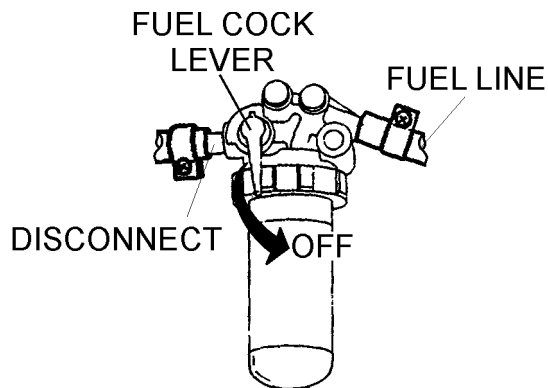

Figure 38. Fuel Cock Lever (OFF)
1. Place fuel cock lever (Figure 38) in the close position.